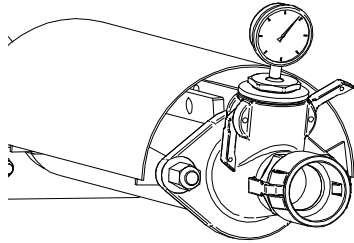
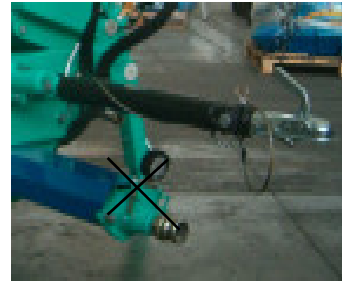

Fig. 2
Fig. 3
**!** - Always relieve the pressure before disconnecting the pipes, turning the eccentric screw in the opposite direction for a few seconds: the pressure gauge (Fig. 2) must indicate a pressure of 0 bar.
## **8. TRANSPORTABILITY AND TOWABILITY (Fig. 3)**
Before towing the machine, remove the pressure gauge (Fig. 2), correctly position the drawbar so that, with the machine and the last element of the drawbar horizontal, the coupling is at the height of the tow hook, correctly secure the various drawbar elements (Fig. 3) hook the safety cable, couple the lights cable, after lifting and locking the mixing machine with the safety pin (Fig. 1, Ref. 21) correctly position the side impact bar (Fig. 1, Ref. 9), lift and lock the stabiliser feet, check the tyre pressures and operation of the various luminous devices, make sure there are no elements of the plastering machine or various material (screen, bags of material, pipes, tools, etc.) on the machine, and make sure the machine is generally in order.